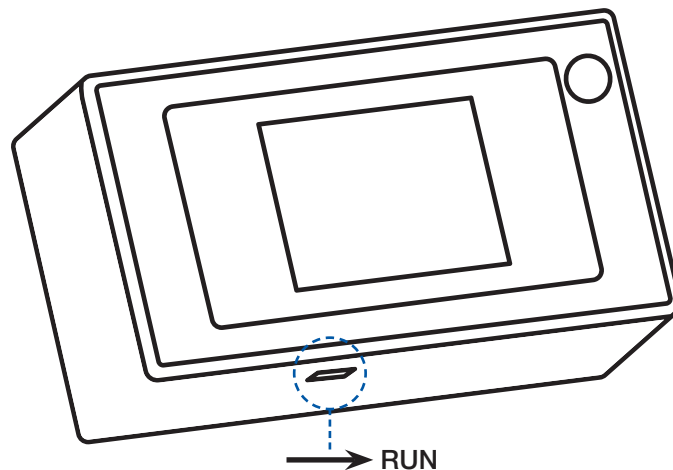

Figure 11
7. When the calibration is complete, the display will read “**Done**”. Touch the green checkmark icon ☒ to return to the Calibrate Scale tab. Remove the calibrated weight, touch the Home icon  to return to the Home Screen, and switch the unit back to Run Mode (Figure 11).